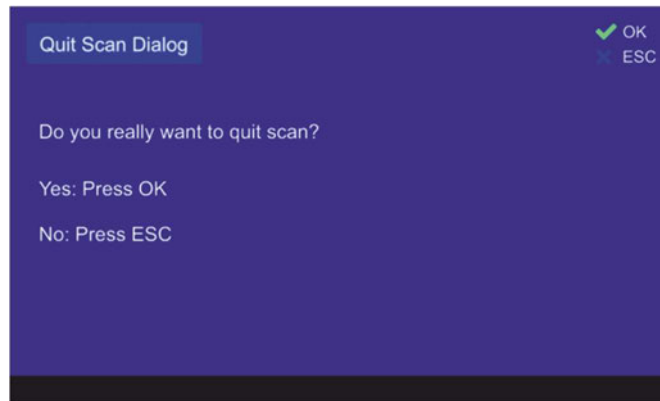

Figure 42. Confirming of leaving the scan mode
- You can also stop the scan mode by pressing the “HOME” button on the “Bearing” page with activated scan. After you have confirmed the special dialog (s. Figure 42), this mode will be terminated.